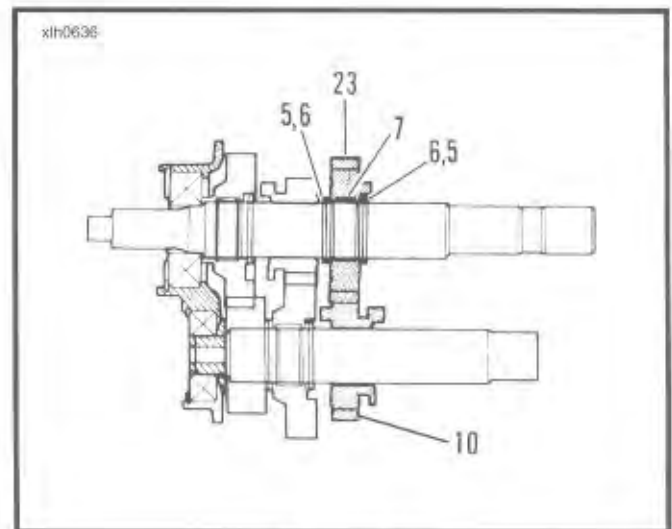

Figure 6-40.
11. See Figure 6-40. At mainshaft, install retaining ring (5) and thrust washer (6). Install split bearing (7) in seat next to thrust washer (6).
12. Install mainshaft 3rd gear (23) onto shaft over bearing (7).
13. Install thrust washer (6) and retaining ring (5) next to gear (23).
14. Install countershaft 3rd gear (10) onto shaft.